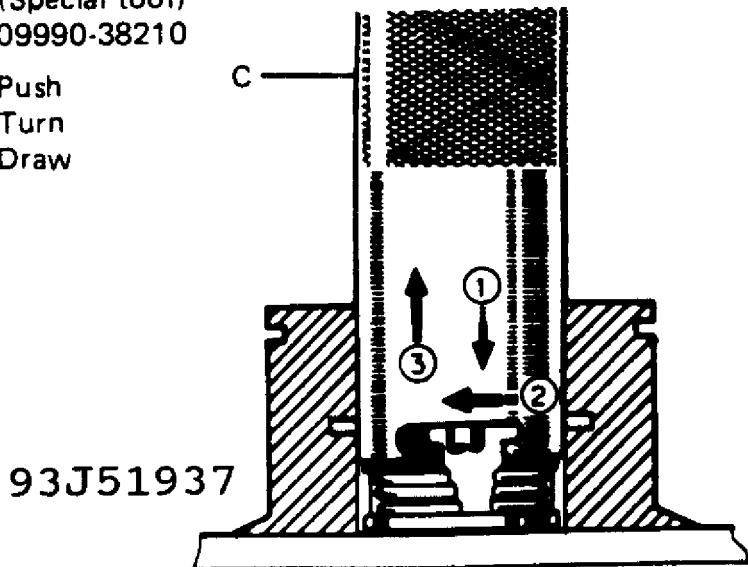

Fig. 13: Shaft Seal Removal
6. Using shaft seal remover (Special tool), remove shaft seal. See Fig. 13.